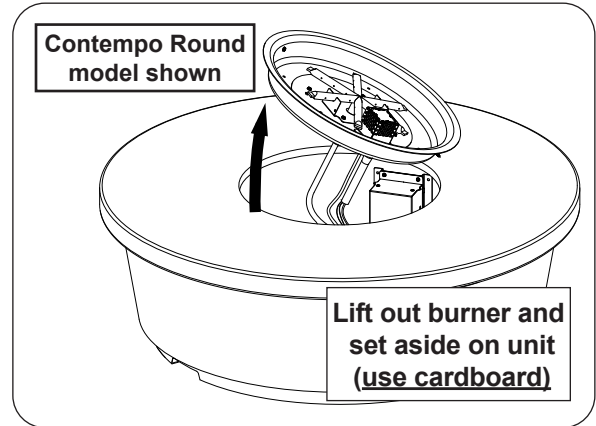

Fig. 42-1 Gain access to interior (if needed)
1. The burner will need to be partially removed. Prior to removal, rest cardboard over the surface of the table top (to prevent damage to the finish when the burner is set aside on the unit). Remove all media. Use a $\frac{5}{16}$ " nut driver to partially unfasten the 2-4 screws found on the burner assembly. Then carefully lift out the burner and set it off to the side. See Fig 42-1.